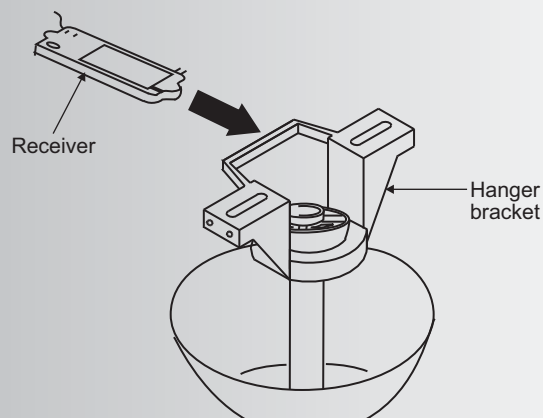

Fig. 16
Step 1. Insert the receiver into the ceiling mounting bracket with the flat side of the receiver facing the ceiling. (Fig. 16) For best performance, make sure the Black Antenna, on the end of the receiver, remains extended and not tangled with any of the electrical wires.